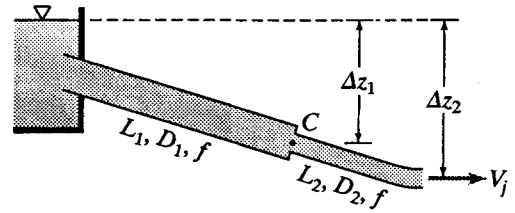

Figure P8.92
- 8.93 A pipeline 300 m long discharges freely at a point 50 m lower than the water surface at intake (Fig. P8.92). The pipe intake projects into the reservoir. The first 200 m is of 350 mm diameter, and the remaining 100 m is of 250 mm diameter. (a) Find the rate of discharge, assuming  $f = 0.06$ . If the junction point C of the two sizes of pipe is 40 m below the intake water surface level, find the pressure head (b) just upstream of C and (c) just downstream of C. Assume a sudden contraction at C.